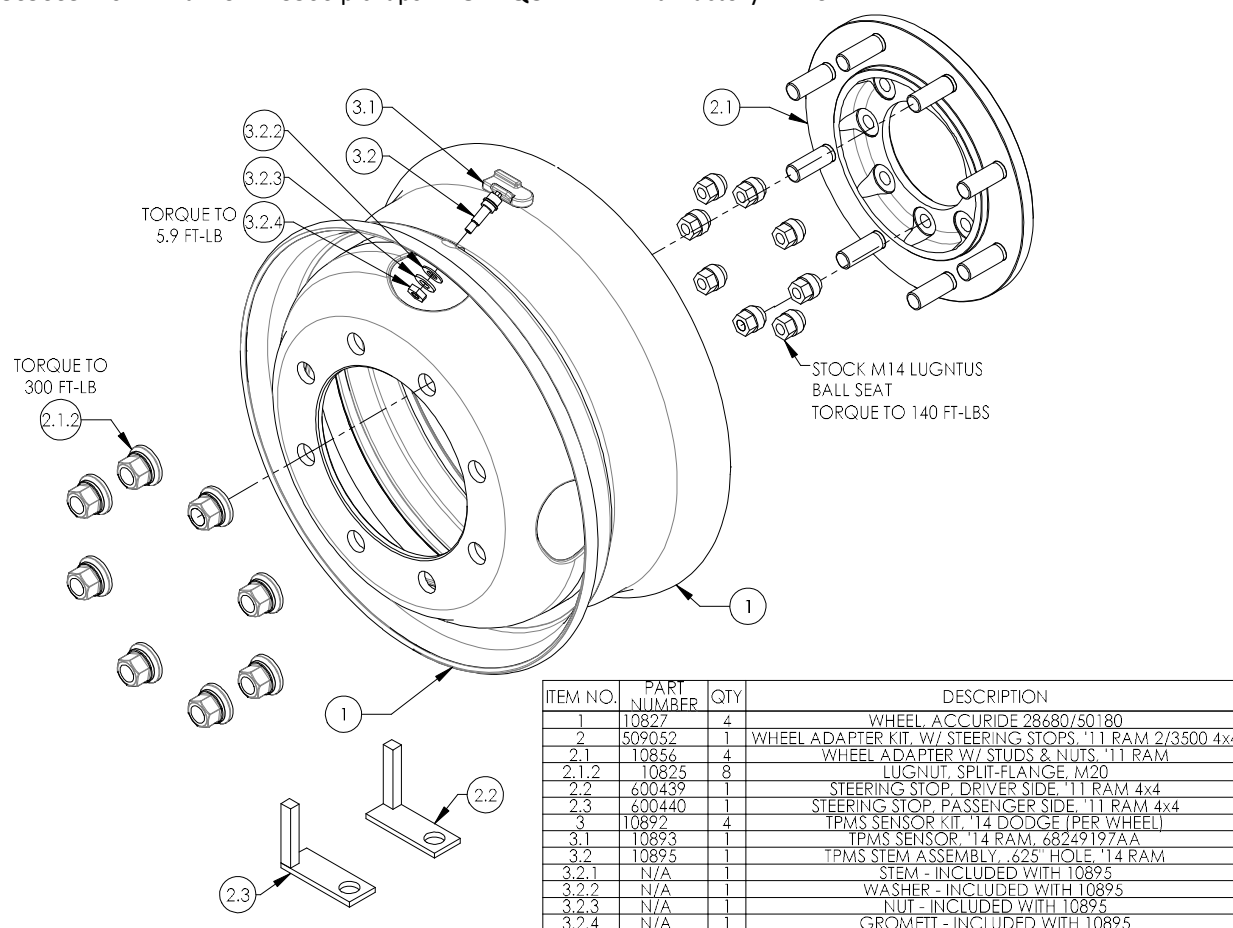

Figure 1 - Installation/Exploded Parts Diagram (509068 shown)
- a. Mount sensors to 19.5" rims as detailed in Figure 1 (where included).
- b. Mount the wheel adapters to factory hubs using factory lug nuts; torque as specified in Figure 1.
- c. Mount the 19.5" rims to the Wheel Adapter using the provided M20 Split Flange Nuts; torque as specified in Figure 1.